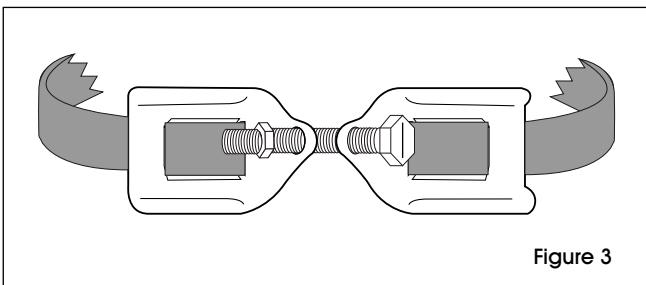

Figure 3
4. Wrap the straps around the pole and connect the buckles using the bolt and nut. Use the screwdriver and wrench to tighten the bolt. (See Figure 3)